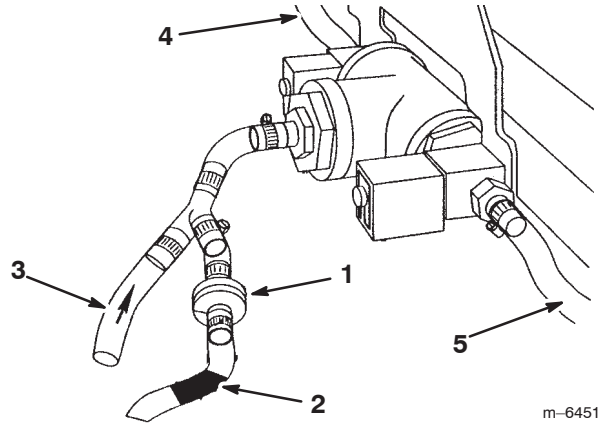

Figure 6
13. Slide the marked supply hose onto the barb on the check valve located at the tee assembly (Fig. 6).
14. Connect the other supply hose to the barbed "Y" at the tee assembly (Fig. 6).
17. Secure both hoses with small hose clamps (Fig. 6).
13. Ensure that the marked supply hose is connected at the compressor and the check valve. If not, correct it before using (Fig. 6).